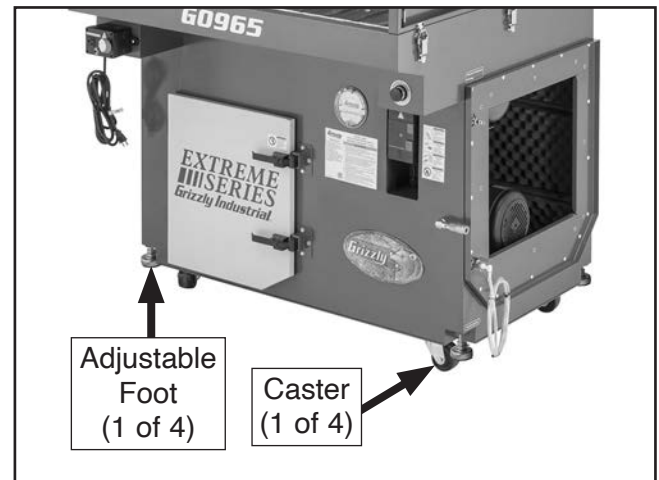

Figure 19. Location of adjustable feet and casters.
6. Move machine to desired location, then adjust feet out of machine base until casters no longer touch floor (see **Figure 19**), then adjust them until machine is level.